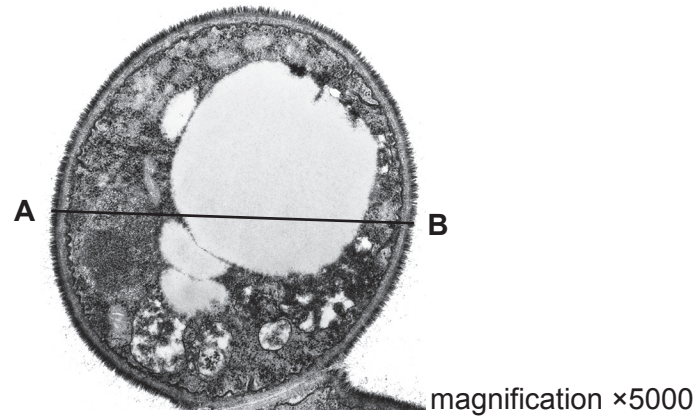

Fig. 1.1
- (b) Fig. 1.1 shows a yeast cell. The yeast cell has a cell wall and a large vacuole similar to a plant cell. The yeast cell is magnified 5000 times.
- (i) Measure the length of the cell, line **AB**, on Fig. 1.1 in millimetres to the nearest millimetre.
length of line **AB** on Fig. 1.1 = mm [1]
$$\text{actual length of cell} = \frac{\text{length of line } \mathbf{AB} \text{ on Fig. 1.1}}{\text{magnification}}$$
- (iii) In the box provided, make a large, clear line drawing of the yeast cell in Fig. 1.1 showing the cell wall and vacuole.